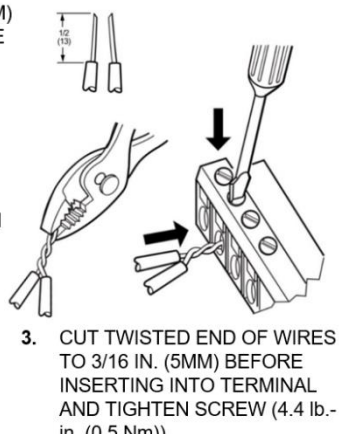

Fig. 15. Attaching two or more wires at terminal blocks
- When attaching two or more wires to the same terminal, other than 14 AWG (2.0 mm2), be sure to twist them together. Deviation from this rule can result in improper electrical contact (see Fig. 15).
- If two or more wires are being inserted into one terminal location, twist the wires together a minimum of three turns before inserting them (see Fig. 15).